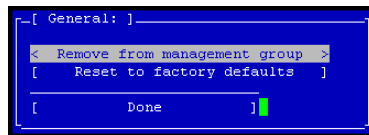

Figure 232. Removing the SSM from a Management Group
1. On the Configuration Interface main menu, tab to Config Management and press Enter. The Configuration Management window opens, shown in Figure 232.